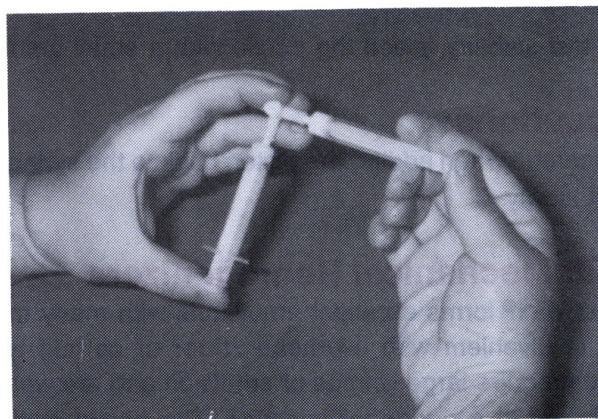

Figure 3: 1 ml of a 50:50 water-in-oil emulsion being prepared using the 3-way stopcock and two all-plastic syringes.
2. Connect the two syringes via a 3-way stopcock (Figure 3). Mix the **TiterMax®** with the antigen by forcing the materials back and forth through the stopcock for approximately 1 minute. **NOTE:** It is important to push the antigen into the **TiterMax®** syringe first, so that the aqueous phase enters the oil phase rather than vice versa. Hold the syringes carefully so that they do not come apart from the 3-way stopcock during emulsification. **NOTE:** After approximately 1 minute a whipped-cream-like water-in-oil emulsion forms. Push all of the emulsion into one syringe and disconnect the empty syringe.